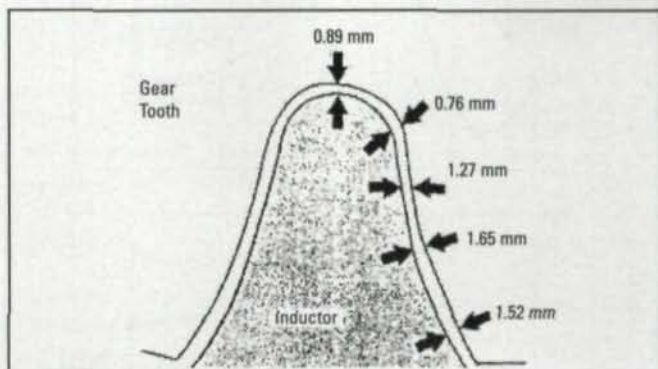

Fig. 5—Typical inductor-to-workpiece coupling.
1) **The Inductor Workpiece Gap.** The space between the inductor and the gear tooth is critical. The surface-to-volume ratio differences around the tooth profile demand different energy requirements. Consequently, the shaping of the inductor (Fig. 5) is important to optimize the coupling. The inductor is designed for rigidity to ensure accurate geometrical positioning.